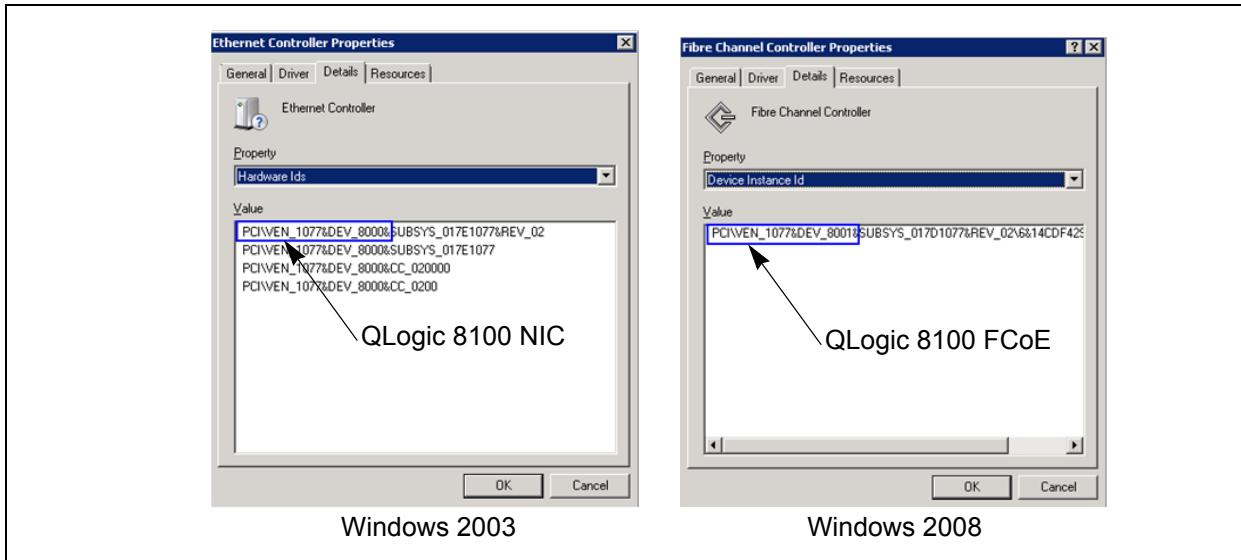

Figure 3-6. Sample QLogic Vendor IDs and Device IDs
5. In the **Property** drop-down list, select **Device Instance Id** (Windows Server 2003) or **Hardware Ids** (Windows 2008). Figure 3-6 shows sample vendor IDs and device IDs for QLogic 8100 NIC adapter (Windows 2003) and QLogic 8100 FCoE adapter (Windows 2008).